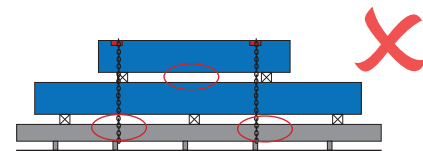

Fig.2.5: Do NOT misalign bearers and chains, as the packs may bend and become damaged.
- ✓ Align dunnage vertically when packs are stacked on top of one another. (Fig.2.5)